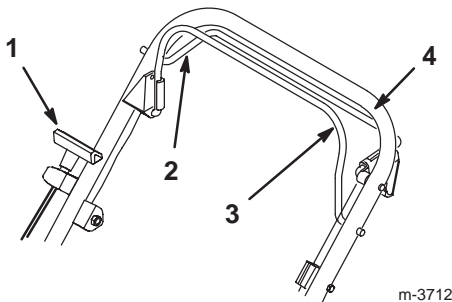

Figure 10
The starter handle, the blade control bail, and the self-propel drive bail are on the upper handle as shown in Figure 10.
3. Hold the blade control bail against the upper handle (Fig. 10).
Manual Starting—Pull the starter handle lightly until you feel resistance, then pull it sharply (Fig. 10). Allow the rope return to the handle slowly.